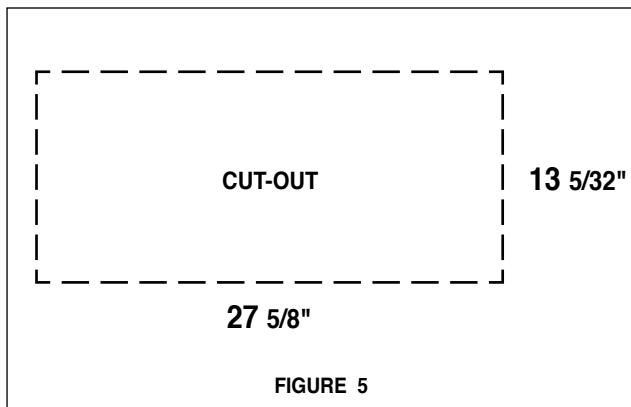

FIGURE 5
5. Make the cut-out opening where the rangehood will be installed (**FIGURE 5**).